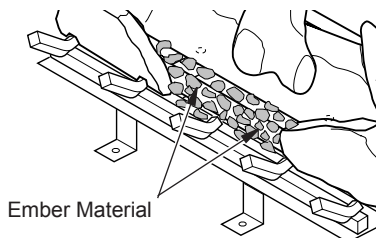

Figure 50 - Placing Ember Material on Burner
8. Pull ember material apart into pieces no larger than a dime. Place these pieces loosely and sparingly directly onto exposed section of front burner and along space between burner and grate prongs (see Figure 50). This will create the glowing ember appearance as the flame touches the ember material. Do not block air slots by using too much ember material